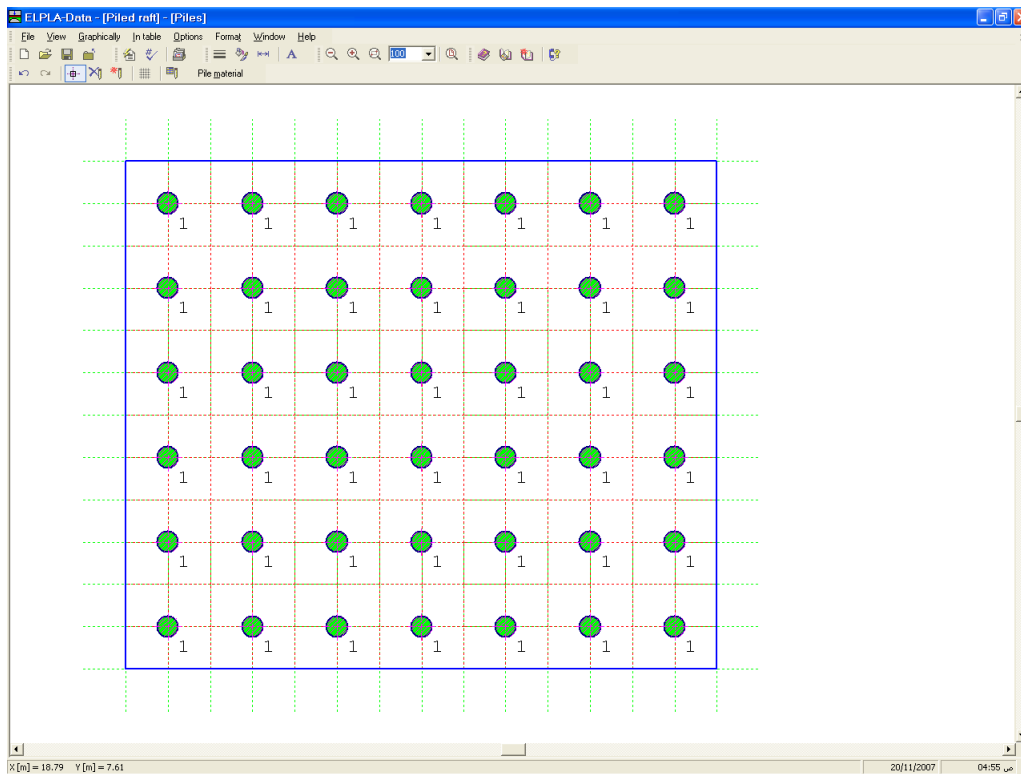

Figure 12-19 Piles on the screen
After you have completed the definition of the piles, the screen should look like the following Figure 12-19.
- Choose "Save piles" command from "File" menu in Figure 12-19 to save the data of piles
- Choose "Close piles" command from "File" menu in Figure 12-19 to close the *ELPLA-Piles* sub program and to return to the main window of *ELPLA-Data*